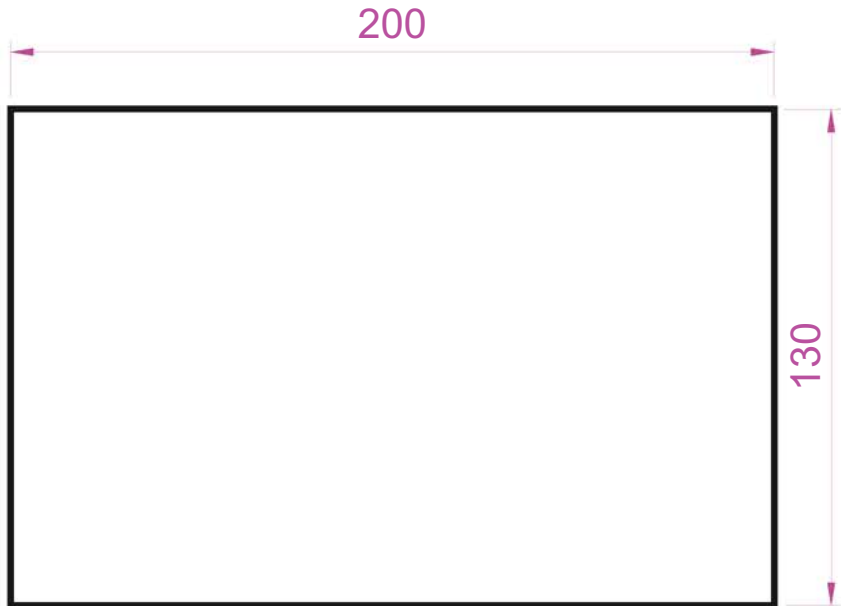

Fig. 2.10 The required outline appears
8. The same prompt appears. *Enter c (Close) and right-click.* The outline (Fig. 2.10) appears.